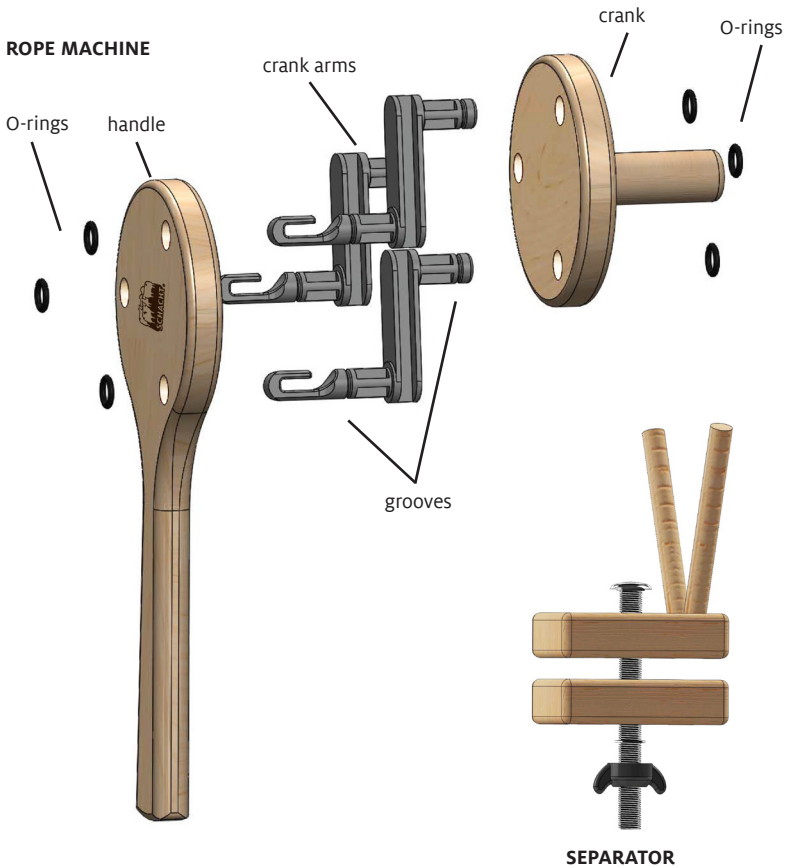

FIGURE 1: ROPE MACHINE PARTS
2. Identify each part, as shown in Figure 1. The separator comes pre-assembled; you'll put together the Rope Machine from the remaining parts.